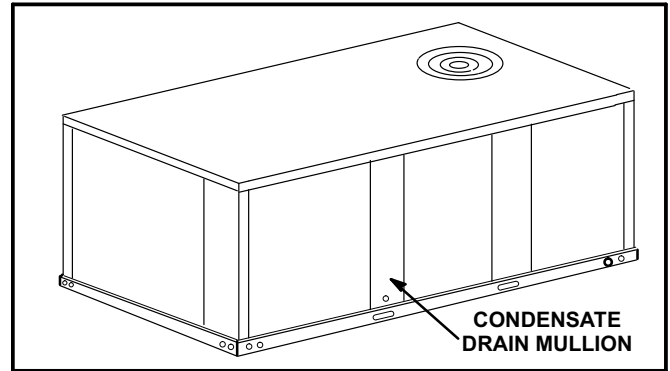

FIGURE 7
- 1- Remove the condensate drain mullion. See figure 7. Remove the two panels on each side of the mullion.
- 1- Remove the condensate drain mullion. See figure 7.